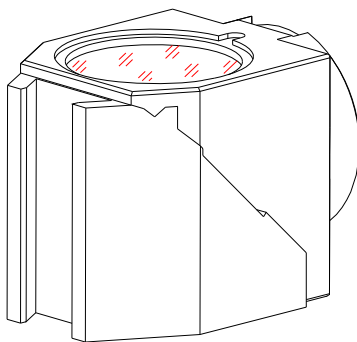

Fig.11
- ◎ There are 6 fluorescent mirror blocks (filter block) mounted in the filterblock turret at the most.(fig.11)